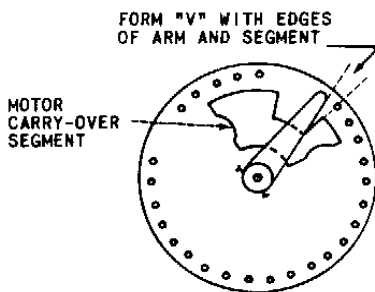
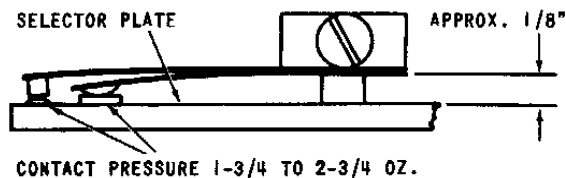

Figure 10.
Figure 11.
2. Set the Contact Arm on the shaft so the edge of the blade forms a "V" with the edge of the motor carry-over segment as shown in *Figure 10*, and the lower part of the hub is spaced approximately 1/8" from the surface of the selector plate as shown in *Figure 11*.